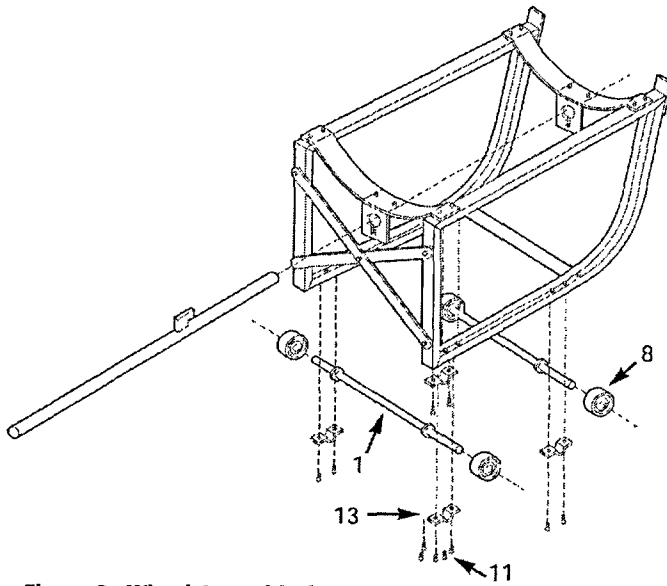

Figure 2 - Wheel Assembly for 1GC91
3. Bolt the two cross braces together (Ref. No. 5, with slot holes on ends). Then bolt to the front of each side frame as shown in Figure 2.
(See Figure 2)